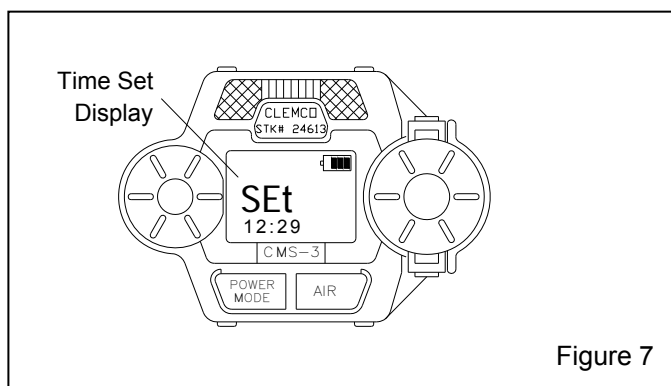

Figure 7
3.7.2 Press and hold the Air button, then press and hold the POWER/MODE button to put the monitor into Time Adjustment Mode. Release the buttons when the word “SEt” appears on the LCD as noted in Figure 7. Below “SEt”, the time will be displayed and the hour in the time will be flashing.